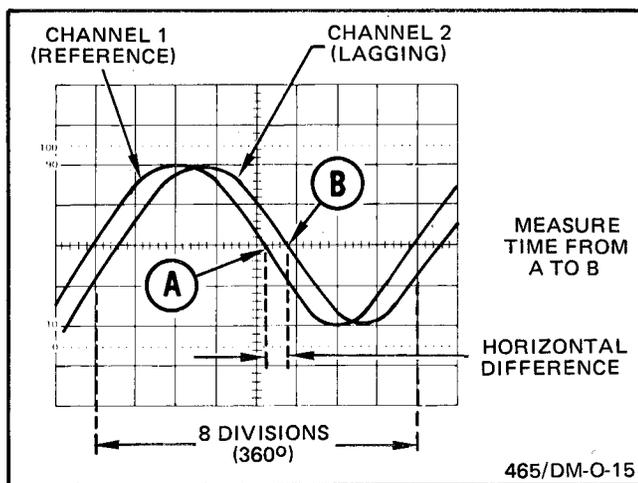

Fig. 2-14. Phase difference.
6. Turn the variable (X1 - X10) SEC/DIV control until one cycle of the reference signal (Channel 1) occupies exactly eight divisions between the first and ninth graticule lines (see Fig. 2-14). Each division of the graticule represents 45° of the cycle ($360^\circ \div 8 \text{ divisions} = 45^\circ/\text{division}$).
Assume a horizontal difference of 0.6 divisions with a sweep rate of 45°/division as shown in Fig. 2-14.